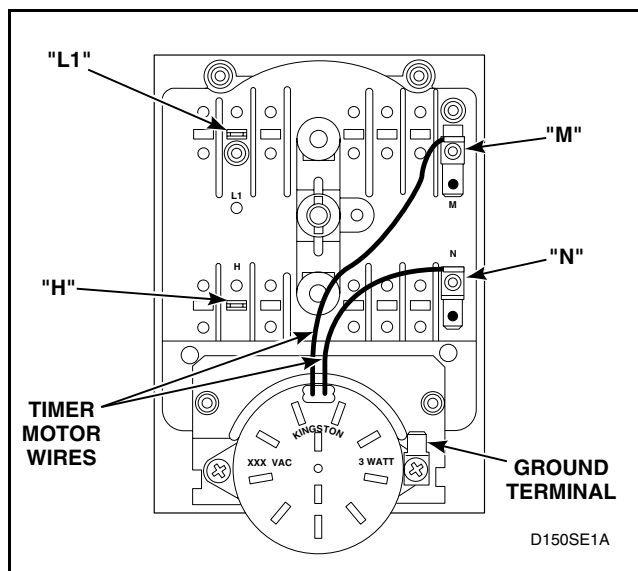

Figure 6
4. Disconnect wires from timer, except timer motor wires. Refer to *Figure 6*.